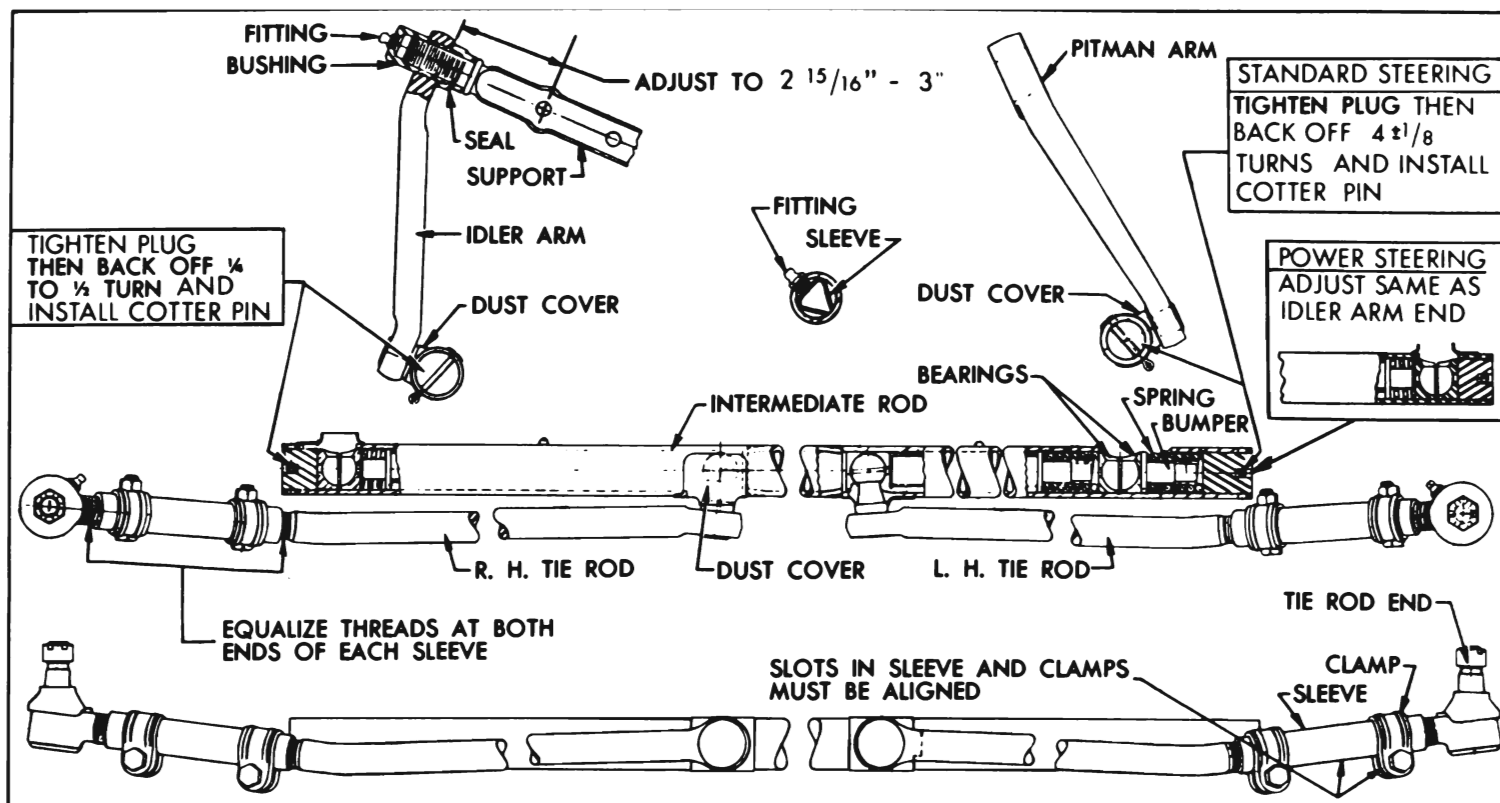

Figure 8-5—Steering Linkage (Manual and Power)
| Intermediate Rod Plug Adjustments | See fig. 8-5 |
The Parallelogram type steering linkage is used to connect both front wheels to the steering gear pitman arm. As shown in figure 8-5, the right and left tie rods are connected to a tubular intermediate rod. The left end of the intermediate rod is supported by the pitman
Four ball studs are held between pairs of ball socket type bearings contained in the intermediate rod. The bearings are held in firm contact with the ball studs through pressure applied by heavy coil springs located at the pitman and idler arm stud bearings. Steel spacers transmit this spring pressure to the tie rod ball stud bearings. See figure 8-5.
Flanged steel bumpers extending through the springs act as spring guides, permit a restricted movement of ball studs and bearings as the springs absorb road shock, and prevent the bearings from spreading and releasing the ball studs in the event of spring breakage. The spring tension and clearances at ends of bumpers are adjusted by the threaded end plugs. See figure 8-5.
The tie rod end, which connects each tie rod to a steering arm, is a spring-loaded ball stud and socket unit assembly. A rubber dust seal fits over the stud where it emerges from the socket, to provide protection against entrance of dirt and water. The tie rods are connected to the tie rod ends by internally threaded sleeves which provide for toe-in adjustment. The sleeves are slotted and provided with clamps at each end to lock them in place. See figure 8-5.
1. Disconnect intermediate rod from pitman arm by unscrewing end plug until bearings will release the ball stud. See Figure 8-5. Torque pitman arm nut to 100 ft. lbs.
The intermediate rod must be maintained in a level position to insure good steering action. This requires proper location of the idler arm on its support so that the idler arm ball stud will be level with the pitman arm ball stud. The support must be threaded into the idler arm bushing until the distance from the center of support lower bolt hole to the nearest face of idler arm is $2\frac{15}{16}$ " to 3", as shown in Figure 8-5. After any adjustment of idler arm on its support the front wheels should be checked to insure proper toe-in.